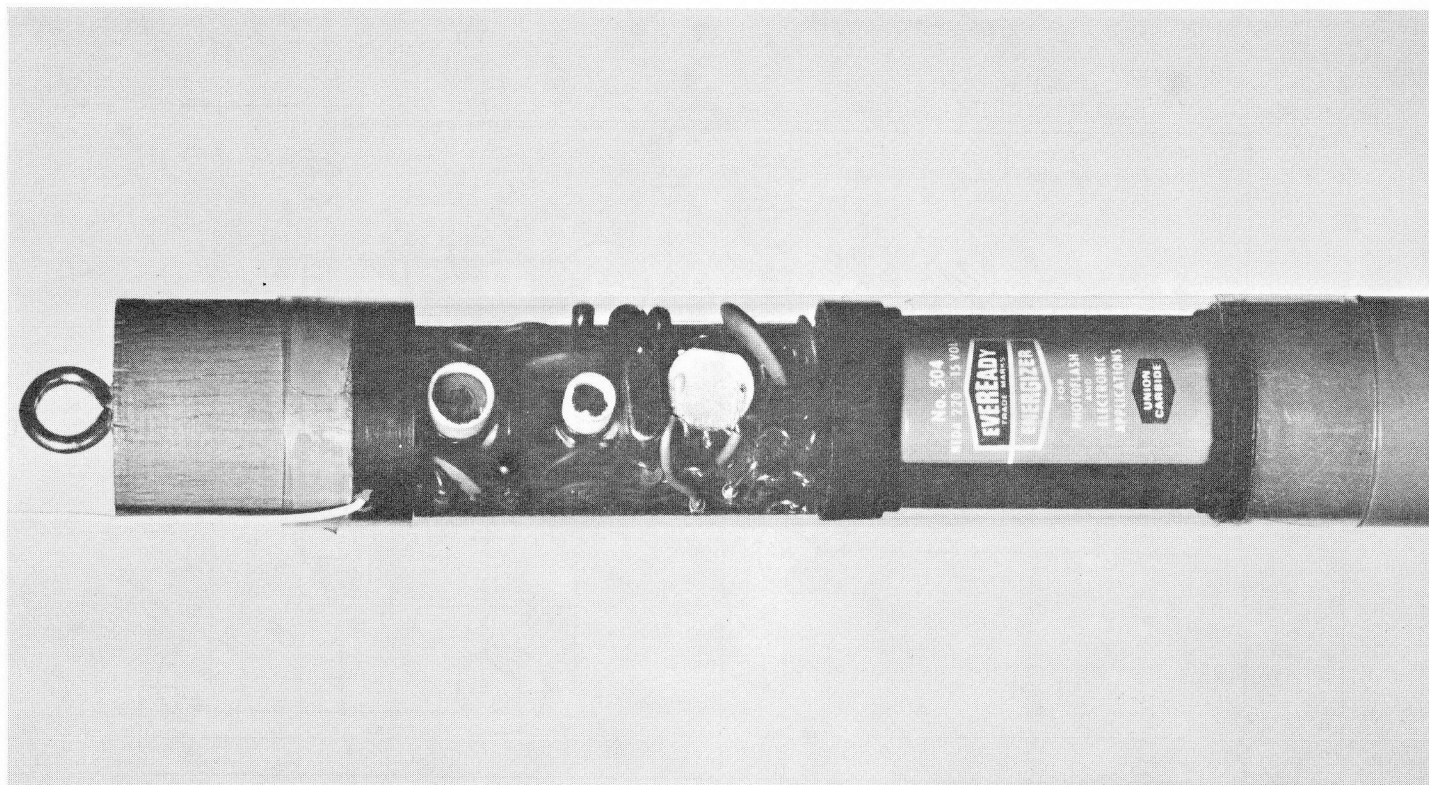

FIG. 5 TRANSROC IN CLEAR PLASTIC PAYLOAD SECTION
in a transparent payload section. Transparency is required in order to allow sunlight to strike the photocell transducer. Construct this payload section using a PS-50FJ kit or a PST-50FJ clear plastic body tube. See Figure 5.
- 9B. () Install the completed and checked-out assembly in a transparent payload section. Transparency is required in order to allow sunlight to strike the photocell transducer. Construct the payload section using a PS-50FJ kit or a PST-50FJ clear plastic body tube. See Figure 5.